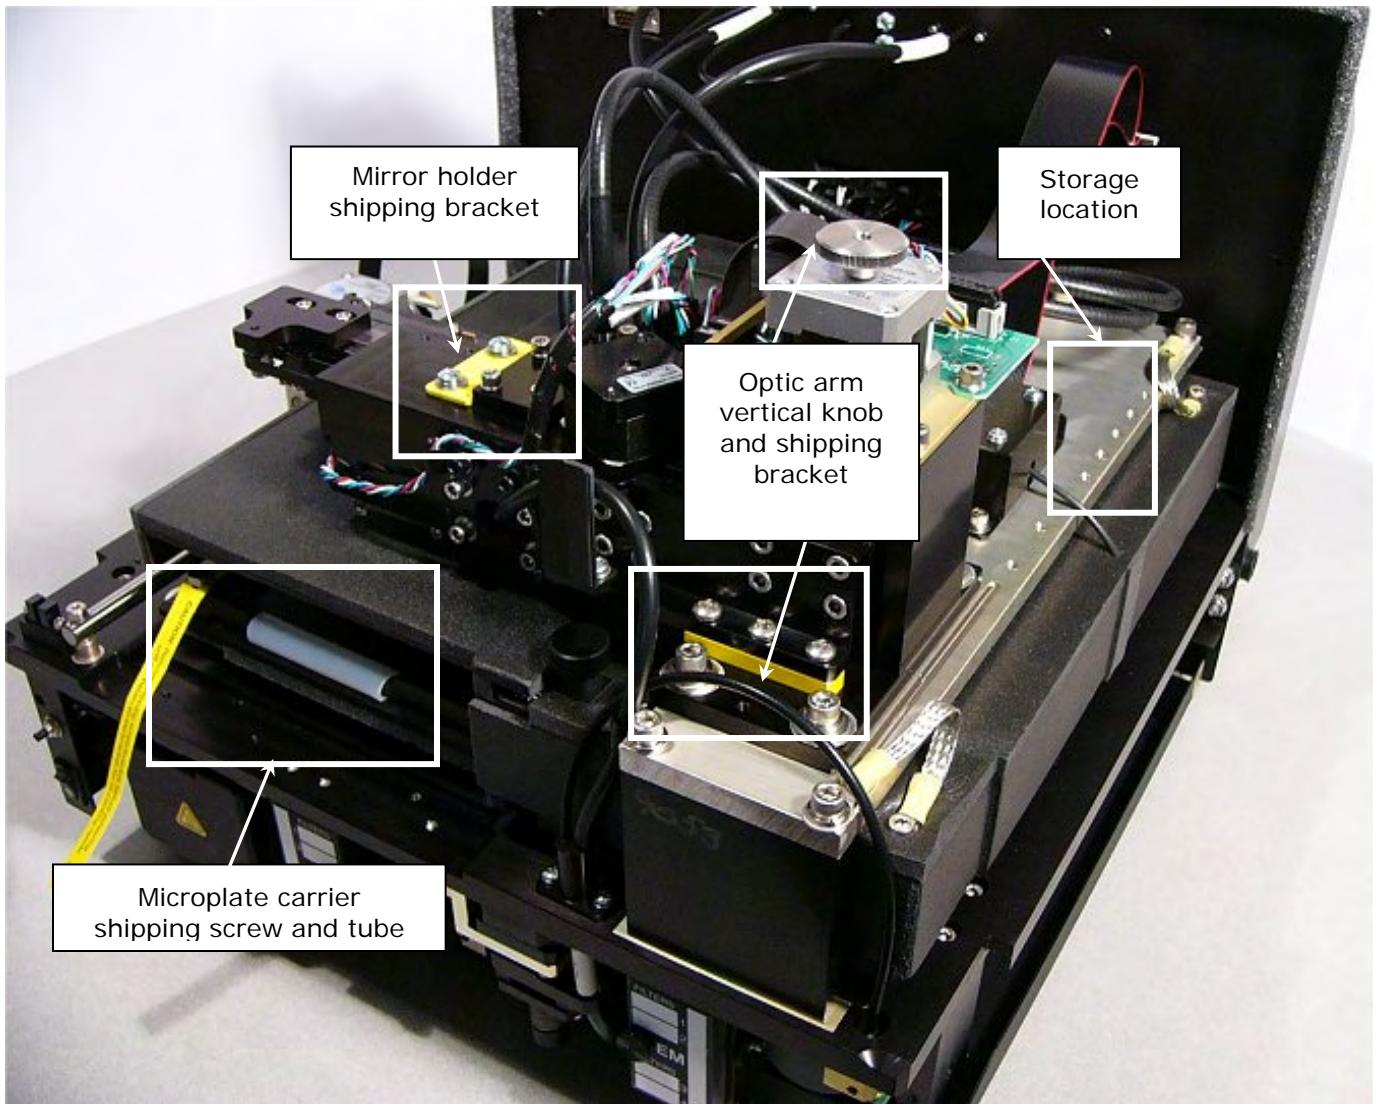

Figure 2: Internal compartment, with shipping hardware
2. Locate the shipping hardware, as shown in **Figure 2**.